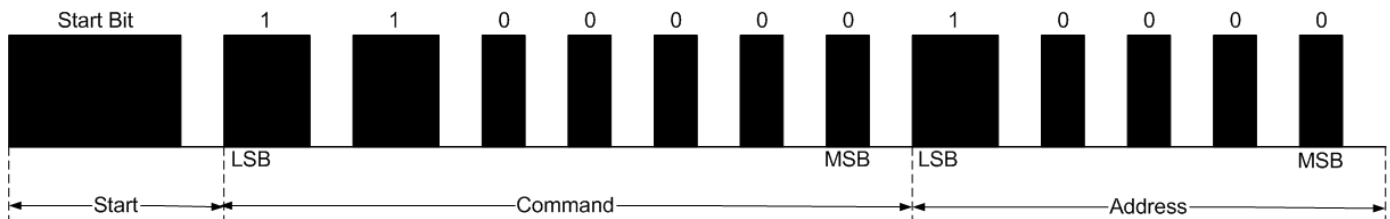

Figure 1: Example Sony SIRC-12 Remote Control Data Packet
There appears to be three versions of the Sony SIRC protocol that send data packets with either 12 bits, 15 bits or 20 bits of information. The most common is the 12-bit version which uses 5 bits for the device address and 7 bits for the device command with the LSB of the command transmitted after the start bit. Figure 1 depicts an example 12-bit data packet from a Sony remote where each block represents a burst of the 38 KHz carrier frequency. In this example packet Device Address 1 (TV) and Command 3 (Digit key 4) is transmitted. Transmissions are repeated every 45ms (measured from start bit to start bit) for as long as the key on the remote control is held down.